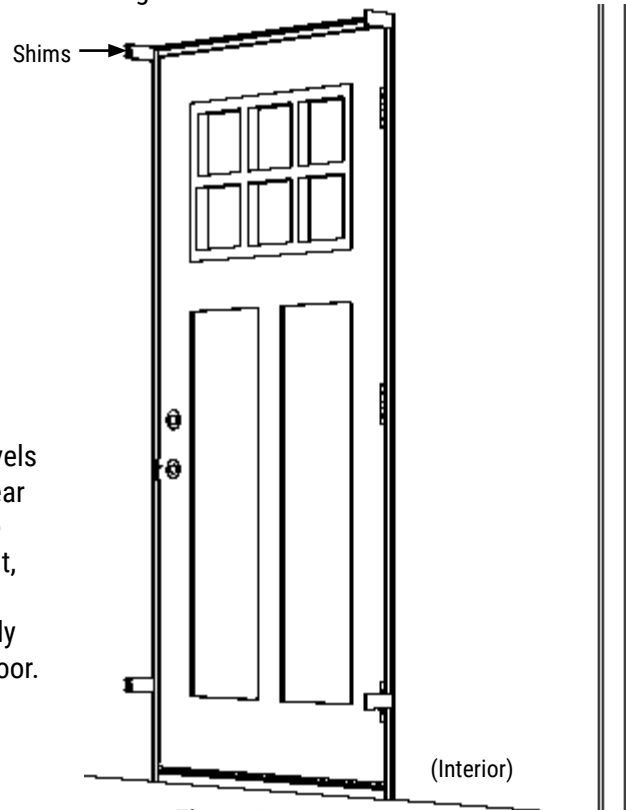

Figure 3a
**3 PLUMB HINGE JAMB:** From the inside, place shims between both jambs and frame opening at the same levels per **Figure 3a**. Locate shims at the top of the door unit and near the bottom hinge. Use a six foot long level to plumb the hinge jamb both left to right and inside to outside. For a Sidelite Unit, plumb the jamb closest to the hinges. For a Double Door Unit, plumb the passive side jamb. (The passive side is the normally closed side). Adjust shims so they are tight before opening door.